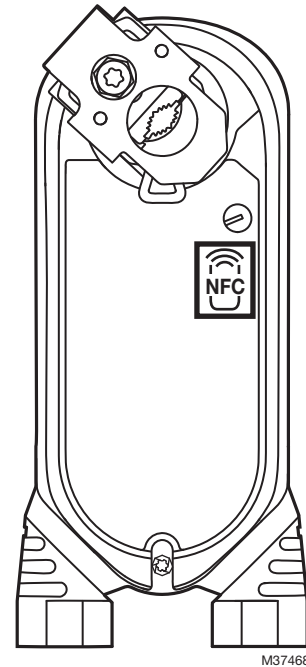

Fig. 18. NFC access area location.
- The NFC access area location is shown in Fig. 18.